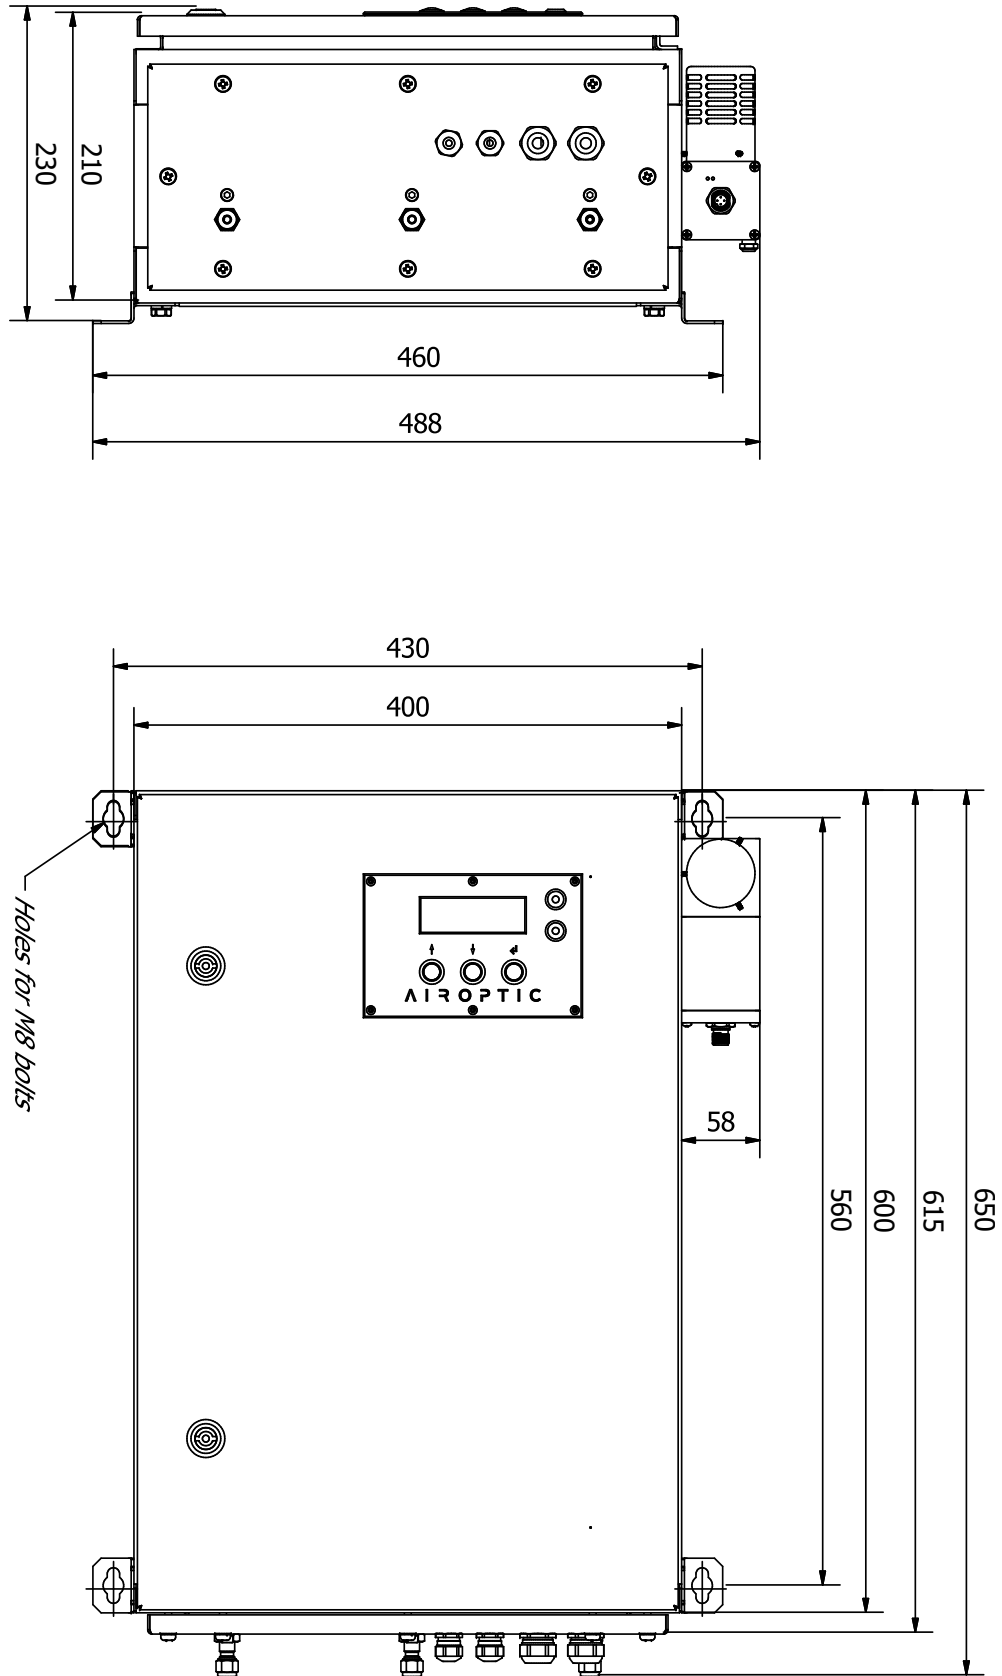

Figure 7. Diagram of GasEye Extractive Ex1 analyzer with dimensions
**Mechanical specification (Figure 7):**